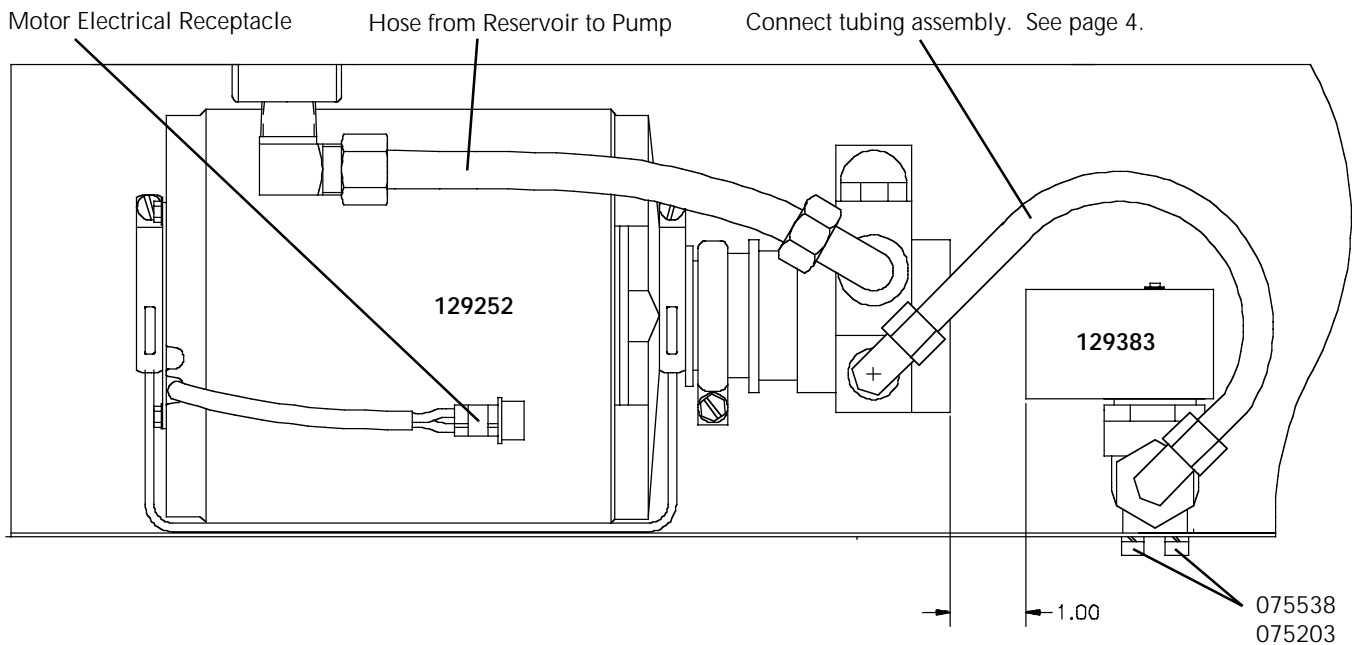

Figure 4 129252 and 129383 Assemblies Installed - View From Rear of Power Supply
5. Assemble tubing assembly to the valve and pump. See Figure 4. Tighten fittings to 75-85 lbf-in (86-98 kgf-cm) of torque.
7. Connect the motor electrical receptacle to the power supply harness plug. See Figure 4.